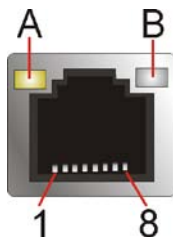

Figure 3-29: LAN Connector
- CN Pinouts: See **Figure 3-29 , Table 3-27 and Table 3-28**